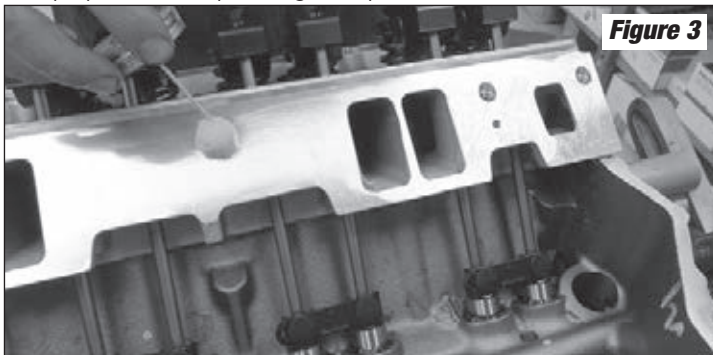

Figure 3
2. Apply two (2) thin layers of Gasegacinch (#9300) to the cylinder head's mating surfaces and on the bottom side of both manifold gaskets. Let the Gasegacinch tack up for about ten (10) minutes (See Figure 3).